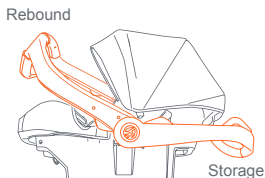

Fig. 49-3
11. Adjust carry handle to the correct position: **ONLY** use **Rebound** or **Storage** Handle positions in vehicle. Use **Storage position** for children greater than 22 lb or if feet can touch the handle (Fig. 49-3).